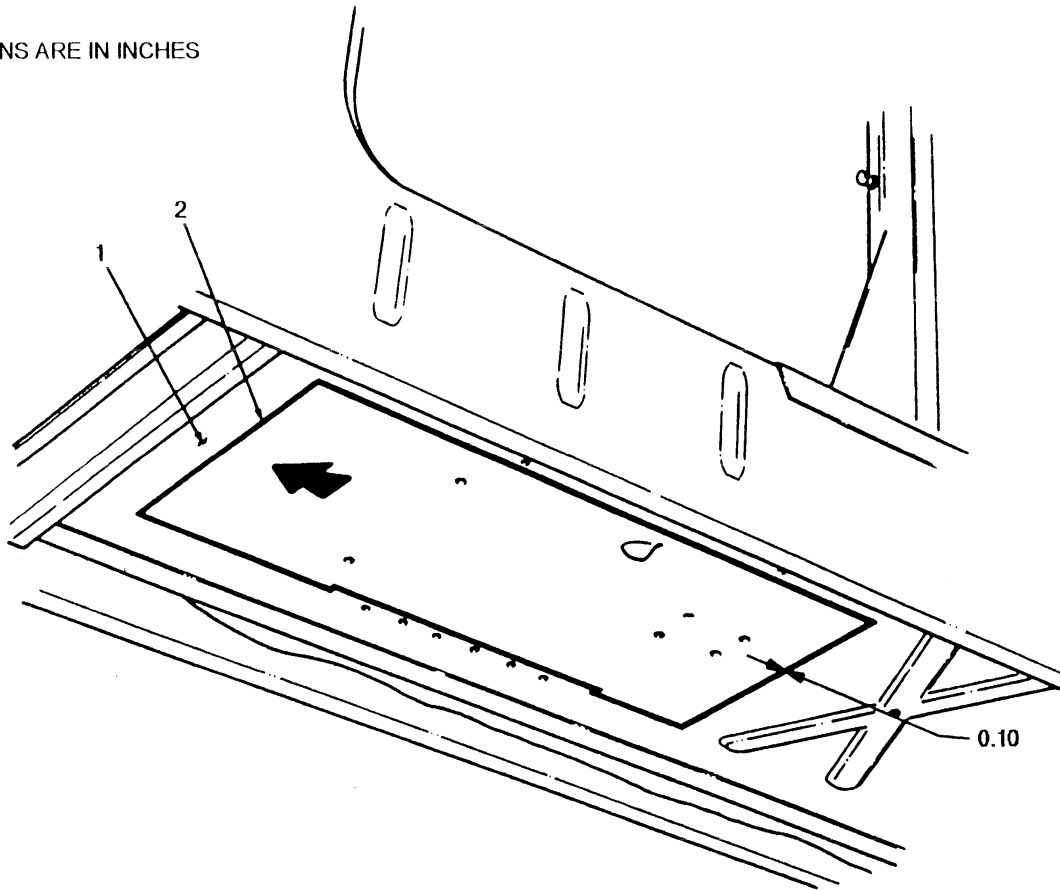

FIGURE 3-38
8. Obtain a minimum clearance of 0.10-inch between edges of insert panel (2) and left front floor panel (1). (see figure 3-38)
9. If a minimum 0.10-inch clearance is obtained between edges of insert panel (2) and left front floor panel (1), proceed to step 11.
10. Repeat steps 7 and 8, if minimum clearance of 0.10-inch clearance is not obtained between insert panel (2) and left front floor panel (1).
11. Remove insert panel (2).